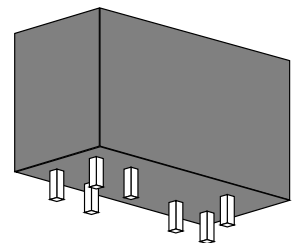

Figure 3.5
7. Inspect each module before installation to make sure the pins are straight (see Figure 3.5). Align the pins with the socket holes and carefully insert the module. Press down on the module to seat it firmly on the board (Photo 6).